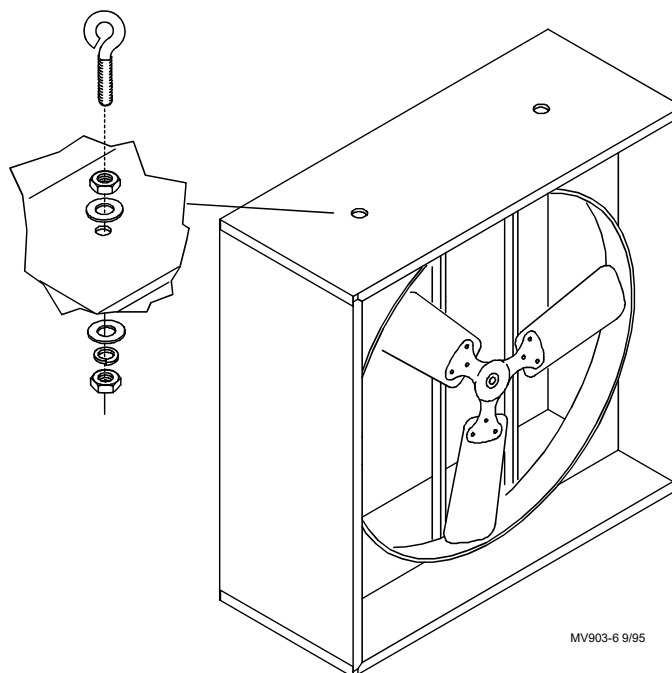

Figure 2. Ceiling installation (side view)
Drill (2) 3/8" (10 mm) holes into the top of the fan assembly, as shown in **Figure 2**. Holes provided in the Fan Shroud should be used to determine hole locations in the Fan Crate.
A Suspension Kit may be ordered separately, which includes 20' (6 m) of chain, (2) eye bolts, (4) nuts, (4) flat washers, (2) lock washers, (2) screw hooks, and (4) "S" Hooks. Assemble the Suspension Kit components as shown in **Figure 2**.